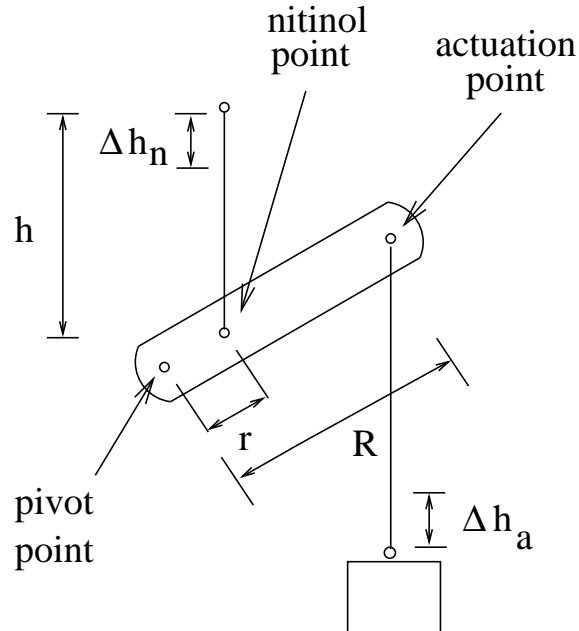

Figure 22: A lever
2. Refer to Figure 22. Show that the relationship between the Nitinol distance Δh_n and the actuation distance Δh_a is $\Delta h_a = \frac{R}{r} \Delta h_n$. (R is distance between the pivot point and actuation point and r is the distance between pivot point and nitinol point.)